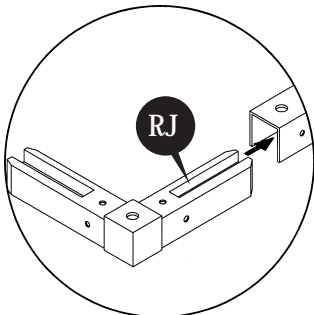

fig.2
10a. Insert 90 degree joint (RJ) into the roof structure (RS3LA). Use a hammer to push in. Use (S1) screws to fix. Repeat on other end of (RS3XA). See fig.2 & fig.3.